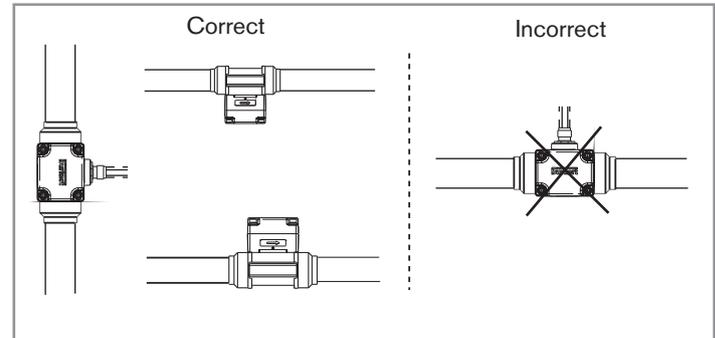

Fig. 3: The paddle-wheel axis must be horizontal
- Install the device in such a way that the paddle-wheel axis is horizontal (Fig. 3).